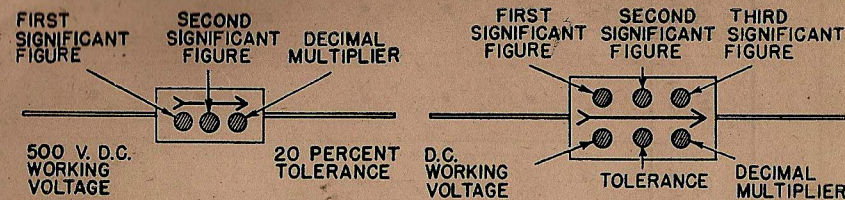

Figure 16. Capacitor color-code chart.
EXAMPLE: A 56,300-mm² (0.0563 mf) capacitor with 10% tolerance and rated at 500 volts would be identified by a green dot (5), a blue dot (6), and an orange dot (3) on the top row, and with a red dot (00), a silver dot (10% tolerance), and a green dot (500 volts) on the bottom row, arranged in the order shown in figure 16. All capacitance values are given in micromicrofarads (mmf) by the color code. Small capacitors often use the 3-dot code shown in figure 16.